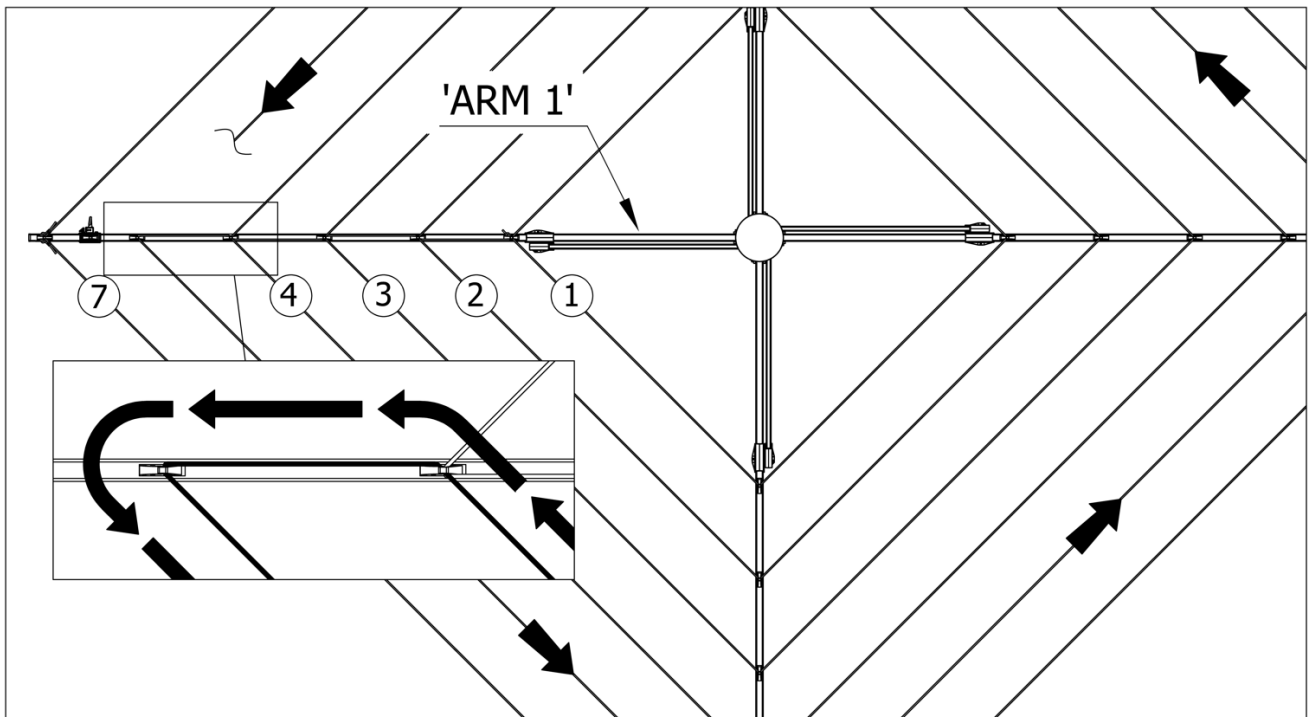

Fig 11. Cording fifth line. (Viewed from above)
1. Pull the cord back into the fourth clip and then run the cord parallel to the arm up to the next clip. (Fig. 11)
2. Cord line 5 in an anti-clockwise direction. (Fig. 11)